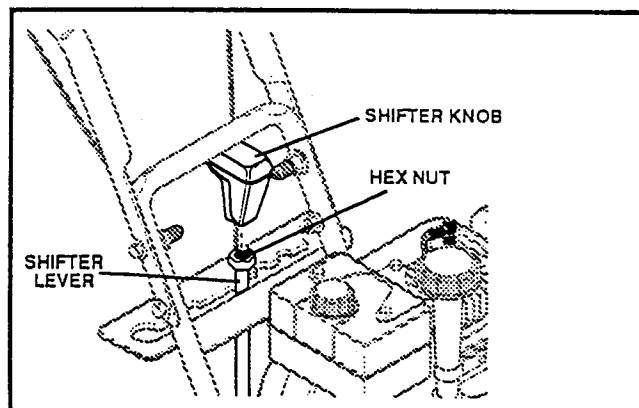

FIG. 6-ASSY
- Thread the shifter lever knob onto the threaded end of the shifter lever until it is snug against the hex nut and the lip is pointed away from the engine. Tighten the hex nut against the bottom of the shift lever knob. See FIG. 6-ASSY.